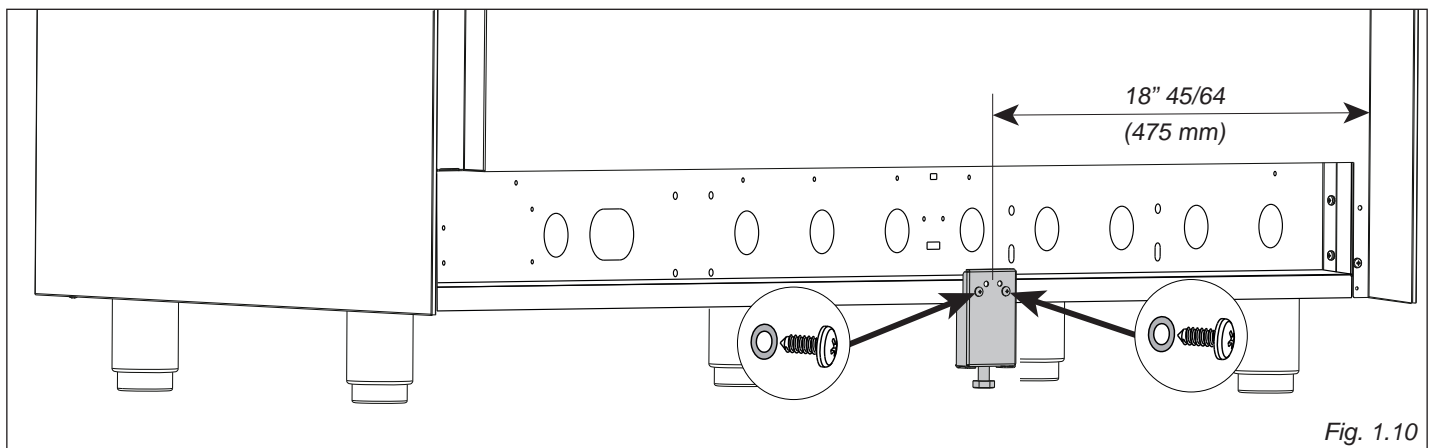

Fig. 1.10
2. Fix the adjustable bracket to the back of the range using the two supplied screws and washers (fig. 1.10).